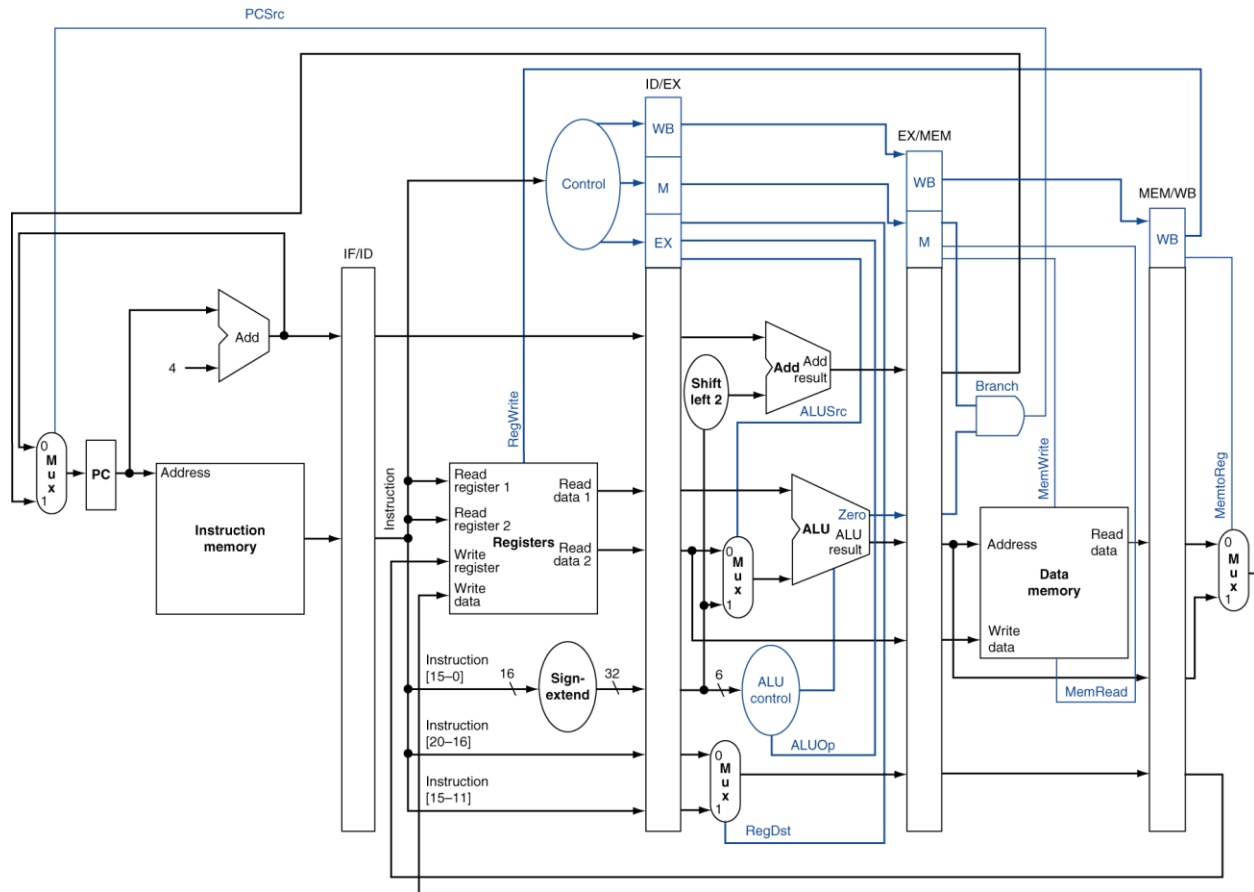

Figure 2. Datapath with Pipelined Control
- The base datapath is shown in Figure 2 for your reference. However, it is also available in your textbook and lecture slides. You will modify this datapath in order to extend the instruction subset.